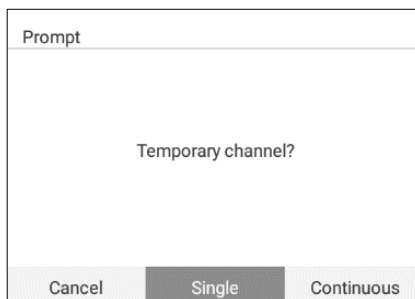

Fig. 5-8 Confirmation Prompt
- a) Press the Temporary button, a confirmation prompt displays requesting to confirm the intention to start the temporary test (Fig. 5-8).